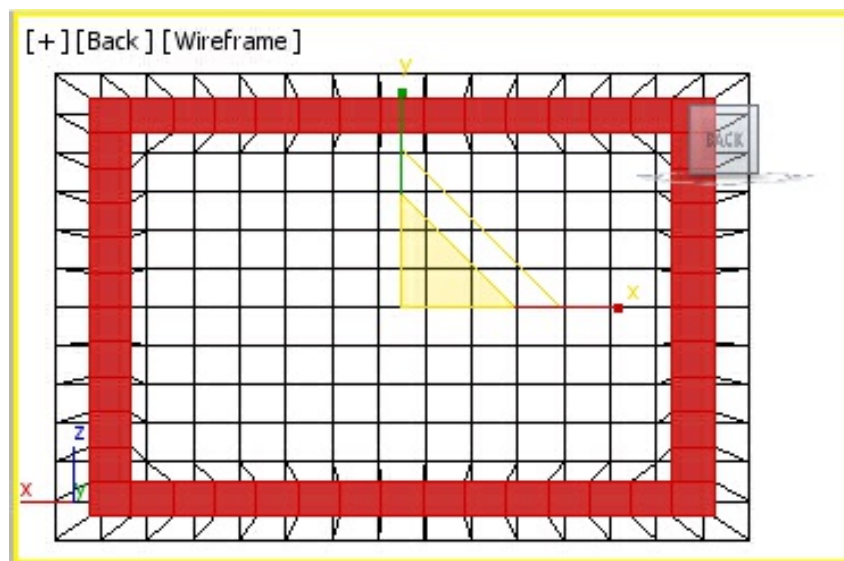

Figure 8-133 The selected polygons uniformly scaled in back portion
13. Right-click on the **Select and Uniform Scale** tool from the **Main Toolbar**; the **Scale Transform Type-In** dialog box is displayed. In the **Offset: Screen** area, set the value **90** in the % spinner and press ENTER; the selected polygons are uniformly scaled to 90 percent, as shown in Figure 8-133. Next, close this dialog box.